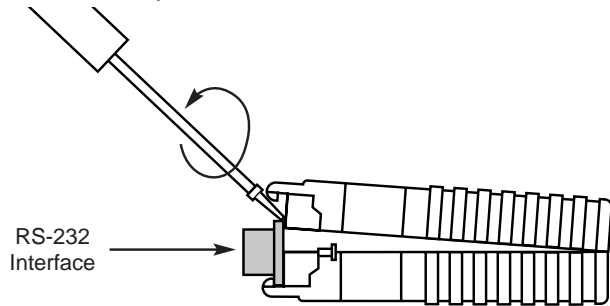

Figure 2. Popping open the case
2. Gently twist the screwdriver to pop the case open as shown in Figure 2, below. Be careful not to damage the case or connector as you twist the screw driver.